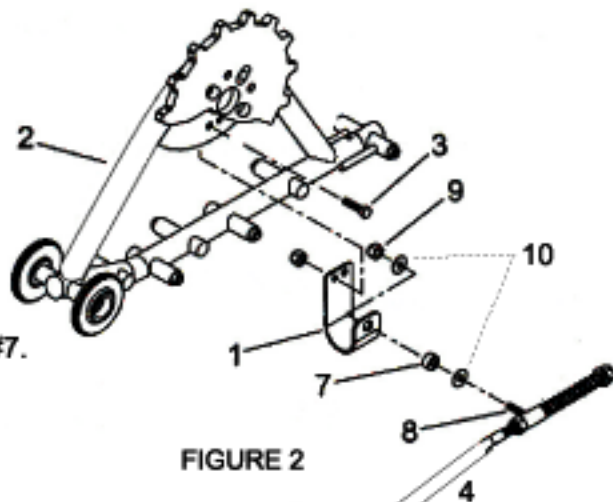
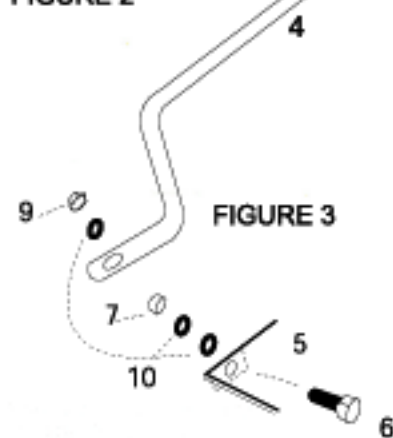

FIGURE 2
FIGURE 3
4. Fit the anti-pivot guide fig.2 #8 with a washer 3/8 fig.2 #10 followed by a bushing 1/4 length. fig.2 #7. Insert the anti-pivot guide in the hole of the J plate followed by a washer 3/8 fig.2 #10 and locknut fig.2 #9. Must be torque to 25 foot pds.
5. Fit the stabilizing rod fig.2 #4 to the adapting plate under the vehicle fig.3 #5 with the hex bolt 3/8 - 16 x 1 1/2 " fig.3 #6 using 2 flat washers fig.3 #10 followed by the bushing 3/8 length fig.3 #7, then install the arm #4 secured with flat washer 3/8 #10 and locknut 3/8-16 torqued to 25 foot pds.